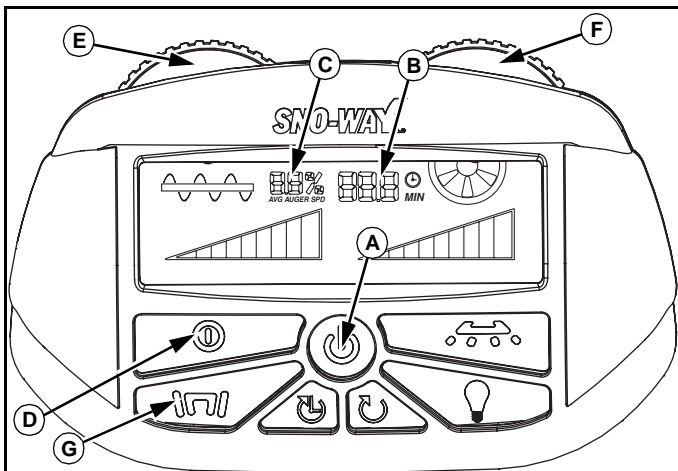

Figure 1-23
1. To operate the spreader press the Power Button (A) for 2 to 3 seconds. You should hear a beep and the screen will illuminate. (See Figure 1-23.)